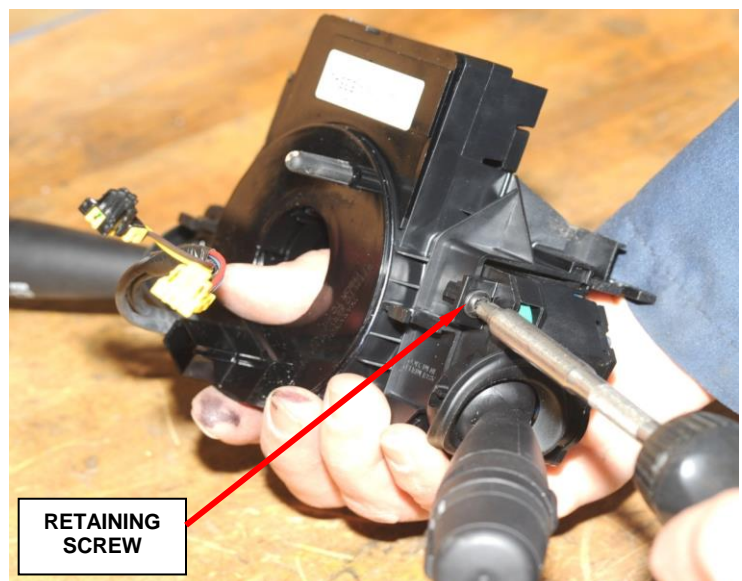

Figure 6 - Left Multi-Function Switch Retaining Screw
14. Remove and save the left multi-function switch retaining screws (Figure 6).
17. Install the left multi-function switch retaining screws (Figure 6). Tighten the screws to 10 in. lbs. (1 N·m).